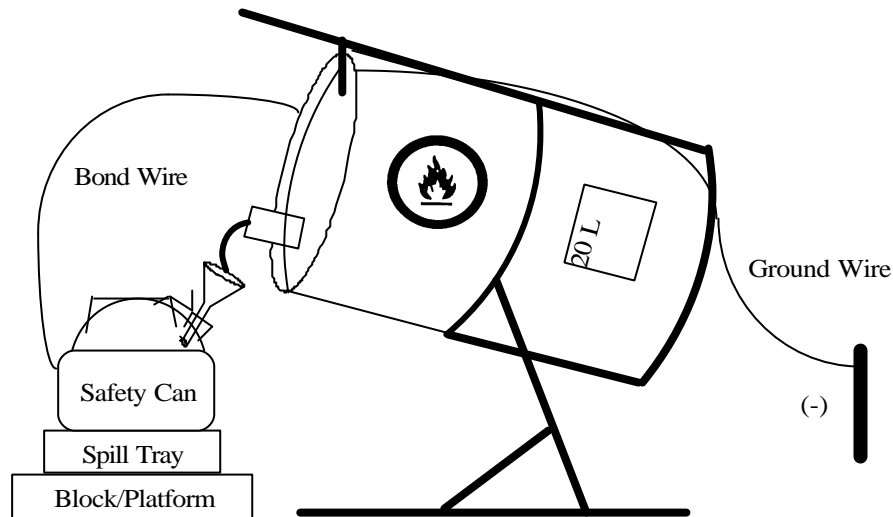

Figure 2
- Using arm of pail rack, slowly rotate can down to pouring position. (see Fig. 2).